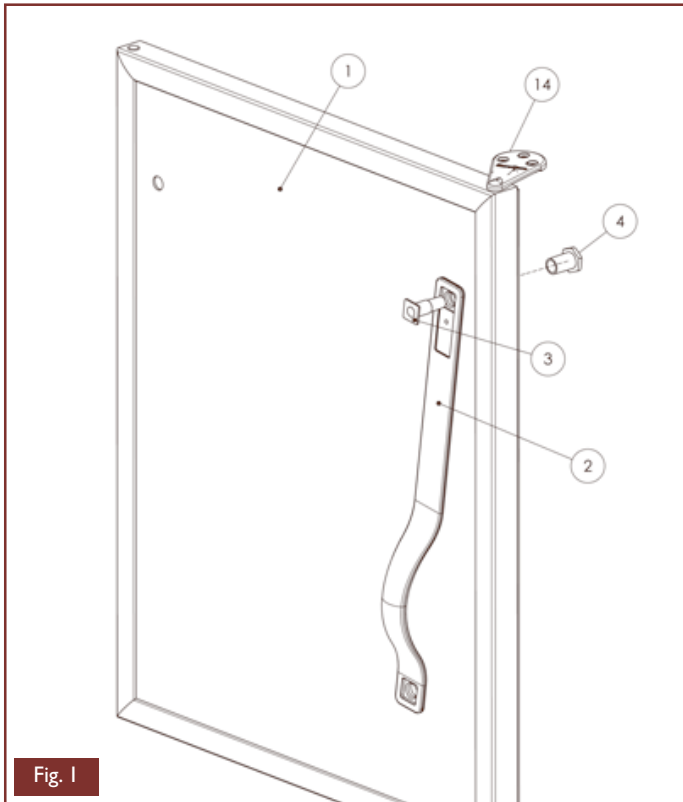

Fig. 1
- Open the door (1)
- Place the handle (2) vertically (with the grip section downwards), see Fig.1
- Use the plastic nut (4), to screw on the pin (3) (on the hinge side (14) of the door) without fully tightening see Fig.1